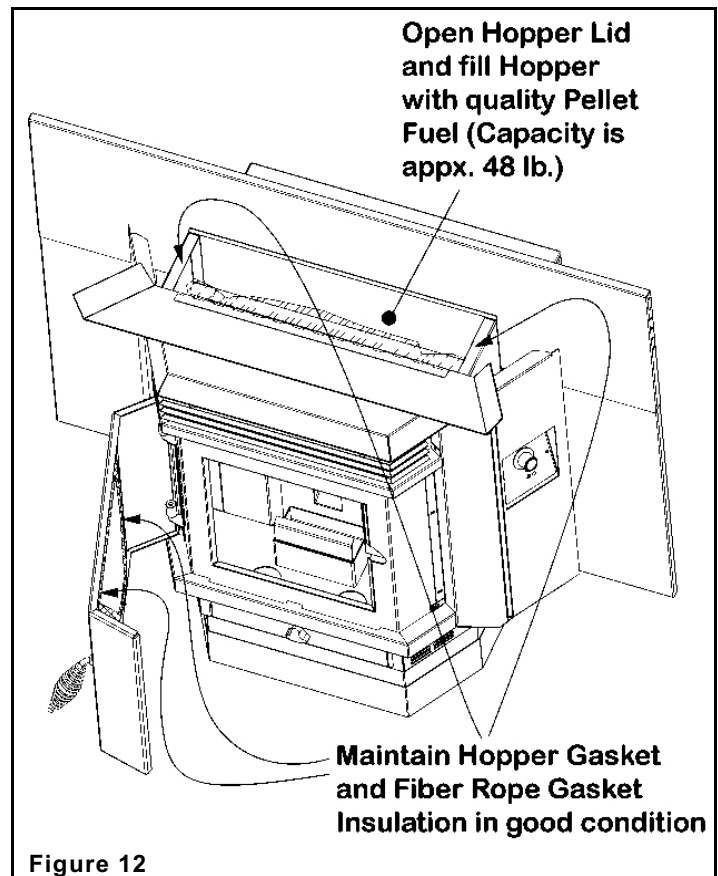
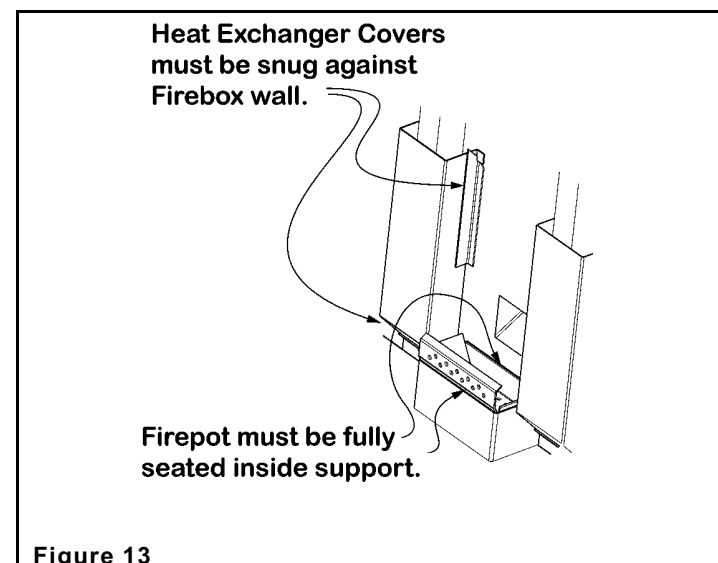

Figure 12
Figure 13
- a. Open door and remove Heat Exchanger Cover. To remove, simply slide up and out from retaining angle bracket (**Figure 12**). Clean one side at a time. With one slide cover removed, **leave door open** and turn control button to the "**CLEAN**" position. Let heater run until ash in Fire Pot area is vacuumed out by heater fan. Turn off and replace cover. Remove remaining cover and repeat procedure for the other side. The vent pipe should be cleaned out after this procedure. Remove the clean-out port cover (**Figure 13**) and vacuum as required.
- a.** Open door and remove Heat Exchanger Cover. To remove, simply slide up and out from retaining angle bracket (**Figure 12**). Clean one side at a time. With one slide cover removed, **leave door open** and turn control knob to the "**CLEAN**" position. Let heater run
until ash in Fire Pot area is vacuumed out by heater fan. Turn off and replace cover. Remove remaining cover and repeat procedure for the other side. The vent pipe should be cleaned out after this procedure. Remove the clean-out port cover (**Figure 13**) and vacuum as required.
3. Cleaning the Exhaust Fan Blade & Heat Exchanger: The exhaust blower should be checked for excessive Fly-ash buildup. Regular and routine maintenance utilizing the **CLEAN OUT** feature will keep the exhaust blower housing and fan blades clean. This cleaning can only be done when the heater is **NOT** burning. For best results run the fan in the **CLEAN OUT** position **with the door open** for approximately one minute or until ash is no longer being picked up by the fan. Remember, you must always check the clean out tee after utilizing the **CLEAN OUT** feature (**Figure 13**).